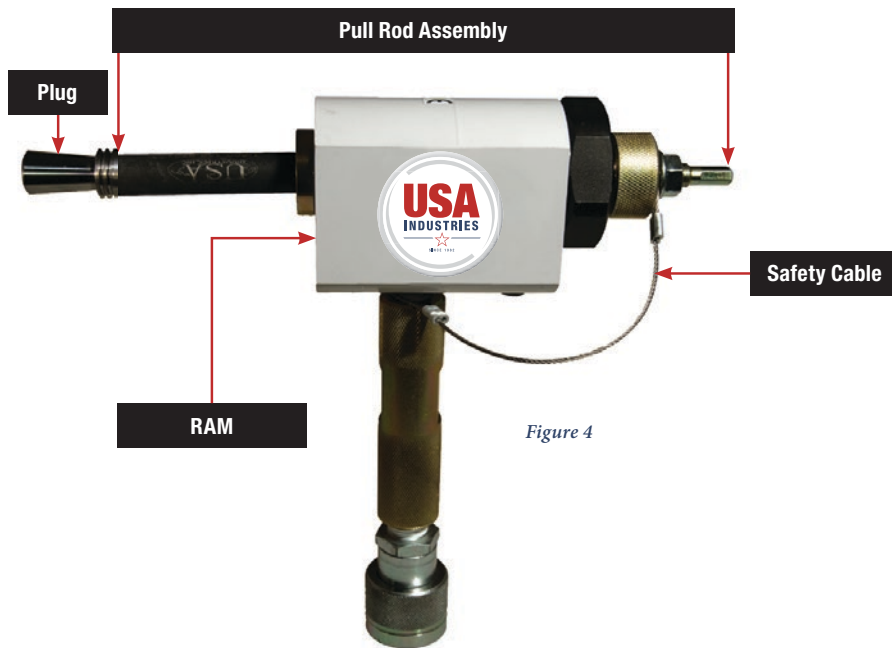

Figure 4
- Ensure the *Ram* (*Figure 4*) is fully retracted.
- Insert the *Pull Rod* assembled with the *Expansion Nut* and *Safety Cable Nut* into the *Ram* from the side of the hydraulic *Ram* that has the large hex shaped nut attached to it as shown in *Figure 4*.
- j) Remove the *Safety Cable Nut* and insert the *Pull Rod* through the loop of the *Safety Cable* then reinstall the *Safety Cable Nut* by fully threading and making finger tight. **DO NOT FORGET TO ASSEMBLE THE SAFETY CABLE & NUT.** See *Figure 4* for proper *Ram* and *Pull Rod Assembly*.